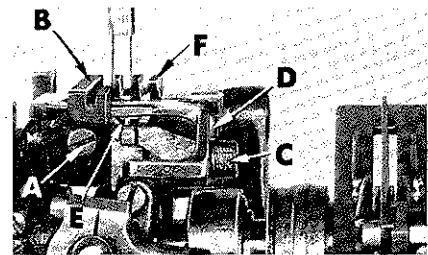
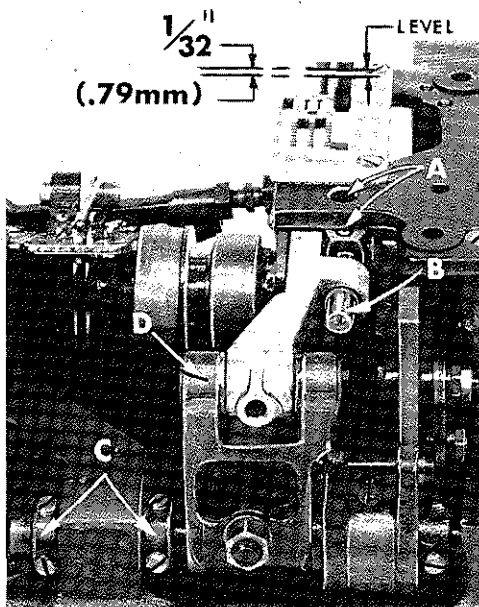
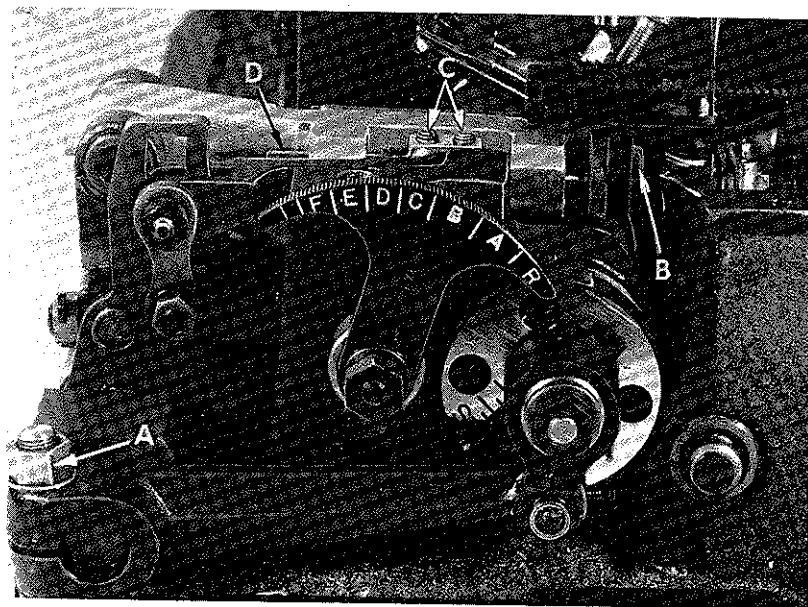

Fig. 9
Fig. 10
Fig. 12
The differential feed dog should be set to rise the depth of a full tooth or approximately $\frac{3}{64}$ inch (1.19mm) above the throat plate at highest point of travel. Adjustment can be made by loosening screw (A, Fig. 9 or B, Fig. 12), raise or lower feed dog (B, Fig. 9) and retighten screw. At maximum feed travel, the feed dog should clear the forward end of throat plate by $\frac{1}{32}$ inch (.79 mm) Fig. 10; also parallel to the top surface of throat plate and centered in throat plate slot across-the-line-of-feed. Adjustments can be made by loosening set screws (A, Fig. 10 or C, Fig. 12), permitting the differential feed bar (B, Fig. 10 or D, Fig. 12), to be moved forward, backward or rotated as needed to acquire the aforementioned conditions. Under extreme circumstances it may be necessary to shift the complete feed mechanism slightly, to the right or left to meet these conditions. This can be done by loosening collars (C, Fig. 10) and moving feed rocker (D); retighten collars and set screws securely. Make sure the feed rocker arm does not bind after making this adjustment.
To raise or lower main feed dog, loosen Allen screw (C, Fig. 9) allowing feed dog holder (D) to be moved. NOTE: Screw (E) must be set to support the main feed dog (F) when specified height is obtained. Retighten screw (C).
of-feed, loosen nut (A, Fig. 12) and move feed rocker forward or backward as needed, retighten nut.